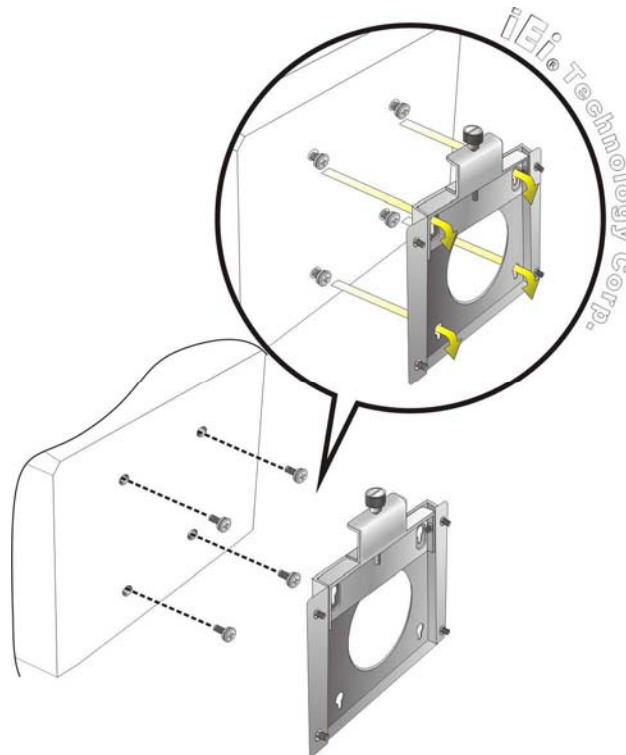

Figure 4-14: Chassis Support Screws
- Step 6:** Insert the four monitor mounting screws provided in the wall mounting kit into the four screw holes on the rear panel of the ACT-08A-ATOM and tighten until the screw shank is secured against the rear panel (**Figure 4-14**).
Step 8: Carefully insert the screws through the holes and gently pull the monitor downwards until the ACT-08A-ATOM rests securely in the slotted holes (**Figure 4-14**). Ensure that all four of the mounting screws fit snugly into their respective slotted holes.